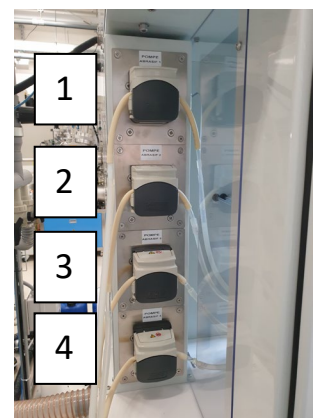

Fig. 3 : Slurry pumps
8. Go behind the tool where you have 4 slurry pumps with 4 tubes/pipes (Fig. 3). Select the one you have in your recipe and put the tube/pipe from the water container in the slurry container (see below).